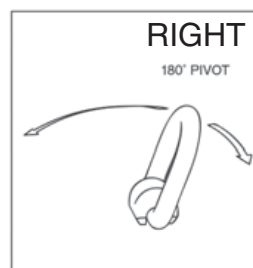

Figure 4
- Always ensure free movement of bail. The bail should pivot 180 degrees (Figure 4).
- Always apply load within 90° of inline, at any pivot angle (Figure 4 & 5).